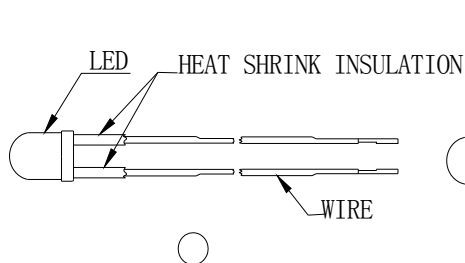

Fig. 2
2. When soldering wire to the LED, use individual heat-shrink tubing to insulate the exposed leads to prevent accidental contact short-circuit.(Fig. 2)